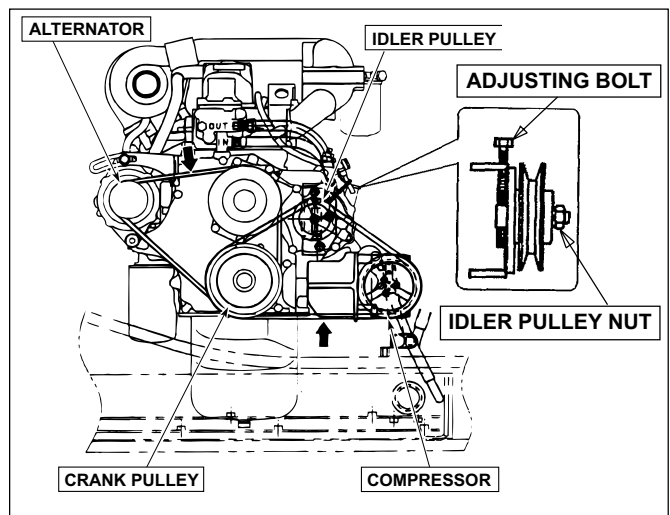

FIGURE 4.38C
- a. Loosen the idler pulley nut. See Figure 4.38C.